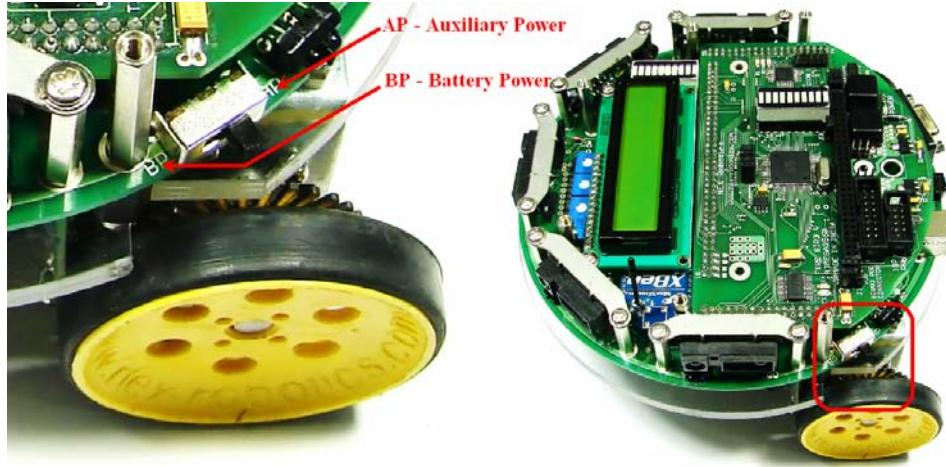

Figure 3.7: Power Switch
Figure 3.7 shows the power switch. On the two sides of the power switch “BP” and “AP” is marked. “BP” stands for Battery Power while “AP” stands for Auxiliary power. When robot is powered by battery, it will turn on when power switch is moved towards “BP” and will get turned off if switch is moved towards “AP”. Use of Auxiliary power to power the robot without using onboard battery will be covered in subsequent sections.
To turn on the robot on the battery power, make sure that battery is connected to the robot and move the power switch towards forward direction (BP) as shown in the figure 3.7